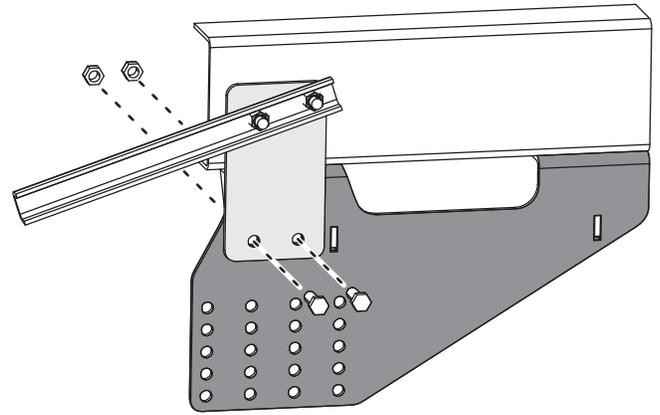

Figure 14
5. Secure the straps to the sideplates using 4 bolts (1/2 inch) and 4 nuts (1/2) as shown in Figure 14.